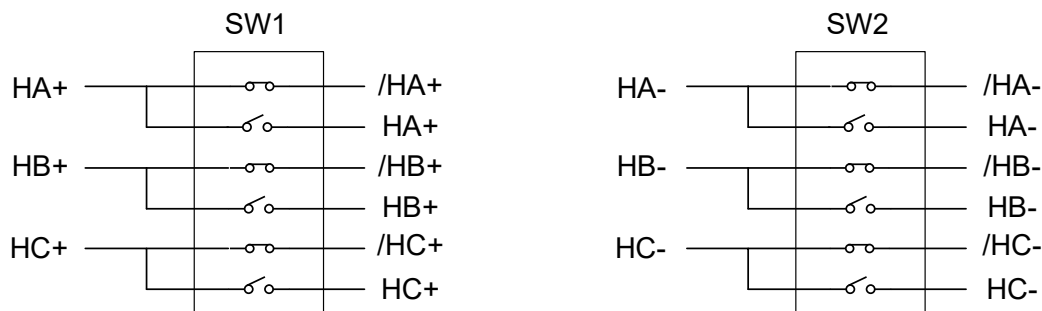

Figure 6: SW1 and SW2 with the Hall IC Connection
- Use SW1 and SW2 to switch to the correct terminal (see Figure 6).